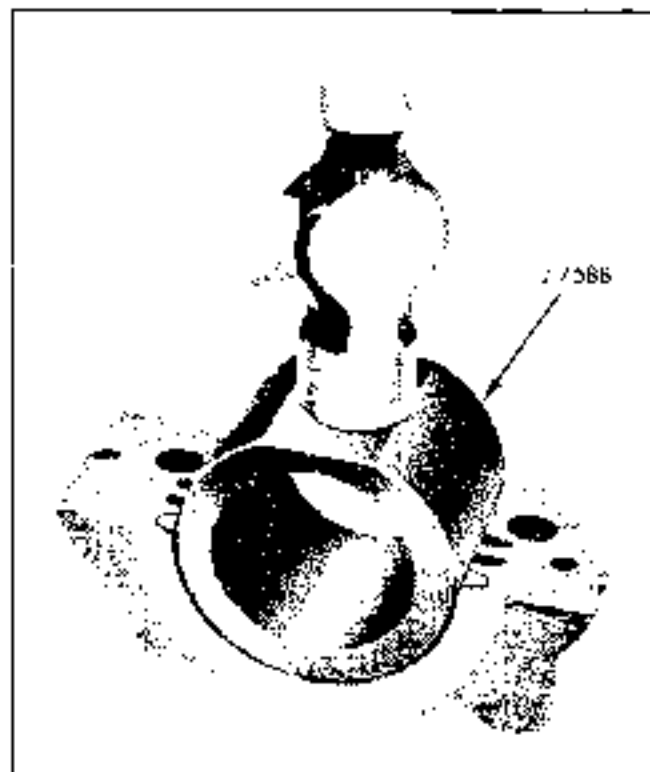

Fig. 6-106 Forming New Seal in Groove
6. Form a new seal in the cap (Fig. 6-106).
7. Remove the newly formed seal from the cap and cut FOUR (4) pieces approximately $3/8$ " long from this seal.
9. Form another new seal in the cap (Fig. 6-106).